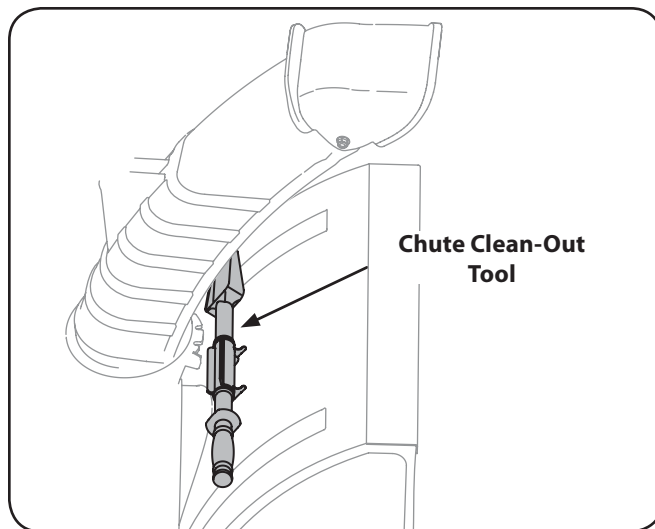

Fig. 3-12
**NOTE:** This item is fastened with a cable tie to the rear of the auger housing at the factory. Cut the cable tie before operating the snow thrower. See Fig. 3-12.